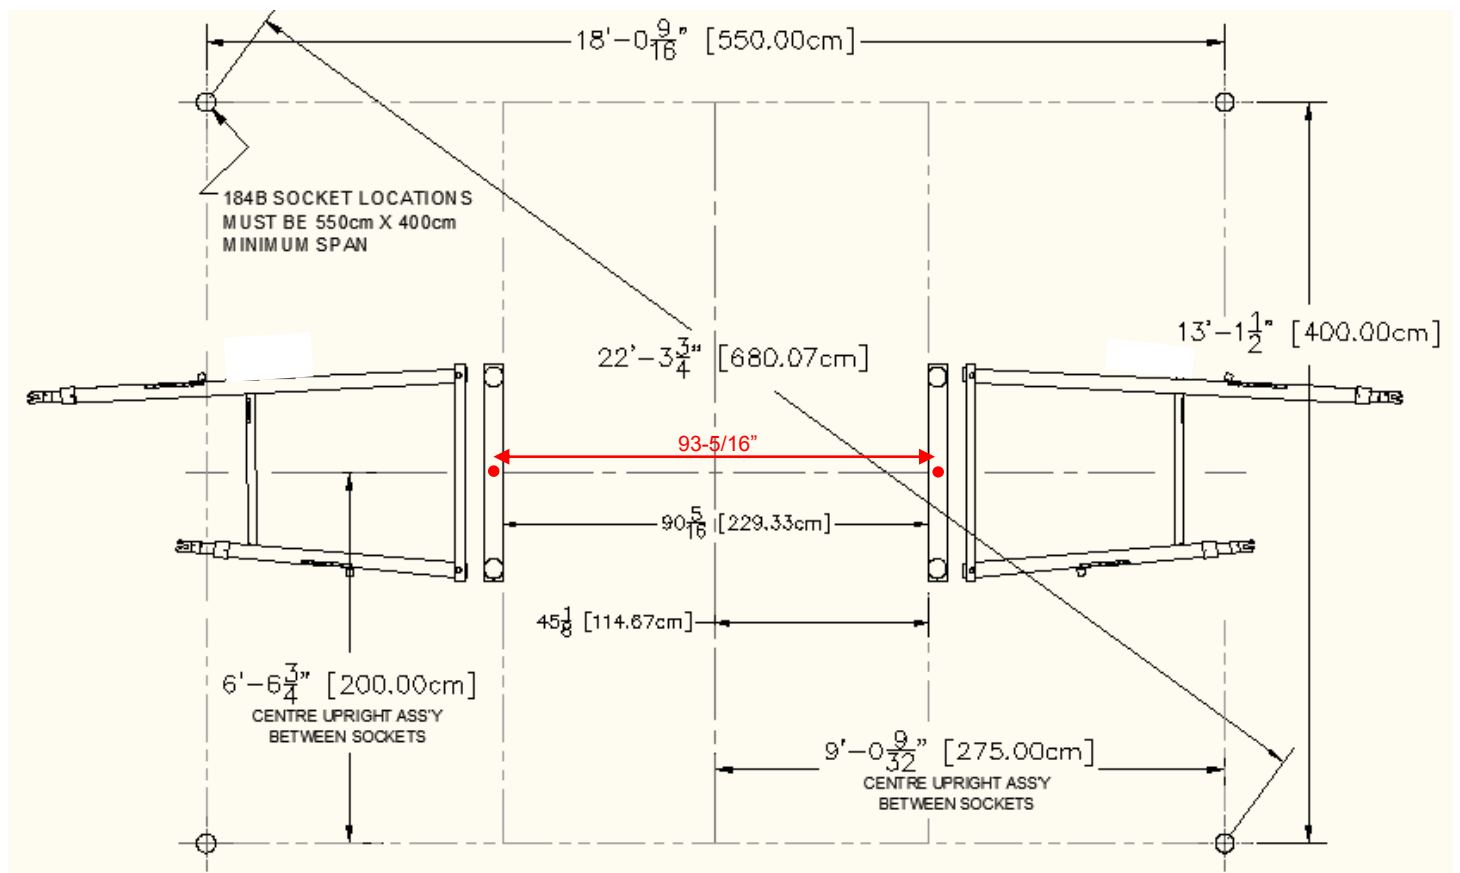
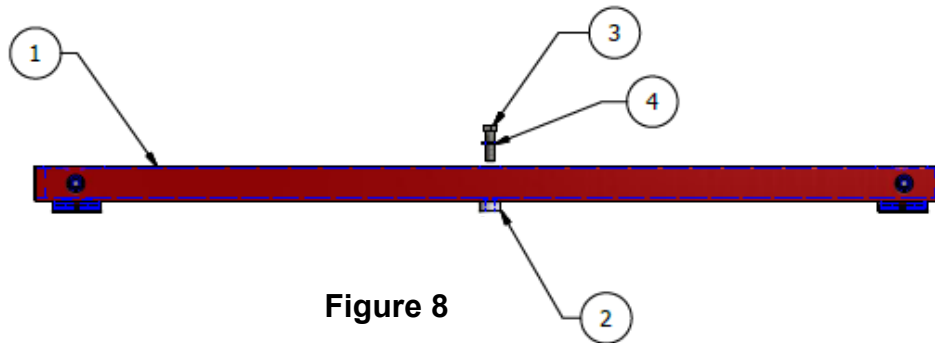

Figure 1: Floor anchors set-up for 5101-120 Uneven Bars 4 anchors cable system #5101-001-001
Figure 8
- Choose a location for the apparatus and mark out the anchors points with the dimensions provided in Figure 1 below.
5. Next, install the Long Upright in the other opening in the top of the Base by repeating Steps 3 & 4 above. **Again, make sure all the T-Handles are facing the same way, and that the high upright height adjustment handle ③ is facing outward.** Tighten the base axle bolts securely.
6. **One side of the assembly is now complete and should be laid on the floor as indicated in Figure 1 on page 4.**
7. Repeat steps 1 through 6 with the other Base Assembly & Upright components. Use the 1st completed **Upright assembly** as a guide for locating the Short and Long Uprights into the 2nd Base as shown in **Figure 1.**
8. **Lay down the second assembly** and locate it within your socket layout as shown in Figure 1 on page 4. Face the sides of the assembly so that the Long and Short Uprights will reflect the desired high/low bar positioning.
The next steps require that you have installed or have in place floor sockets that are considered to be appropriate for safe use with Competitive Gymnastics Equipment. SPIETH America recommends that the Socket Pattern be sized as per the dimensions shown in Figure 1 on page 4.
- The floor sockets must be positioned correctly as shown in **Fig. 1**.
- Base location must be centered correctly. Compare the location of your upright assemblies with **Fig. 1**.
- When the bars are set up properly, anchor bases as shown in **Figures 8** below, to the base concrete anchors pre-drilled and set per Figure 1 on page 4.
- Install the base anchor bolt on each base tube ① by fastening the supplied 1/2" washer ④ and bolt ③, through the base hole and spacer ②, into the floor anchor. Tighten securely.
1. Ensure the base anchor bolt is installed and tightened securely (see Fig. 8 on page 12).